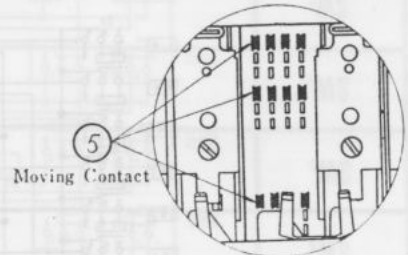

Fig. 7
6. To reassemble, set moving contacts (shown in black) to upper terminal with pincette as illustrated in Fig. 7, and reverse the above procedure.